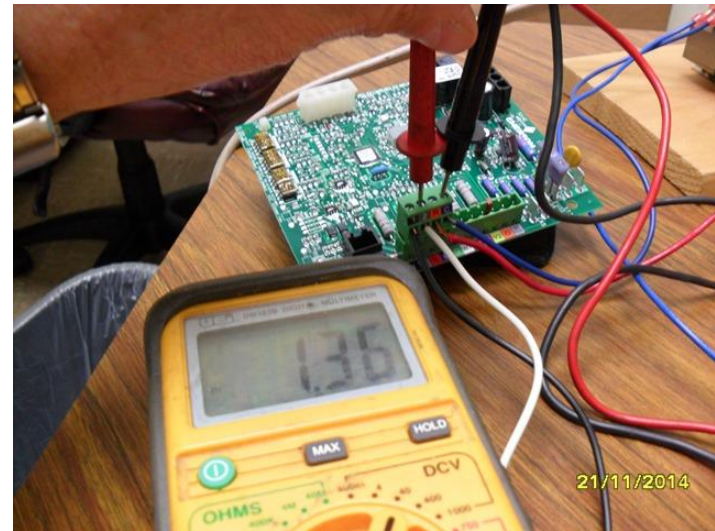

Figure 2
- DC voltage from C to data 2 should read approximately 1.3vdc. Or 2.2vdc for some furnaces (Figure 2)